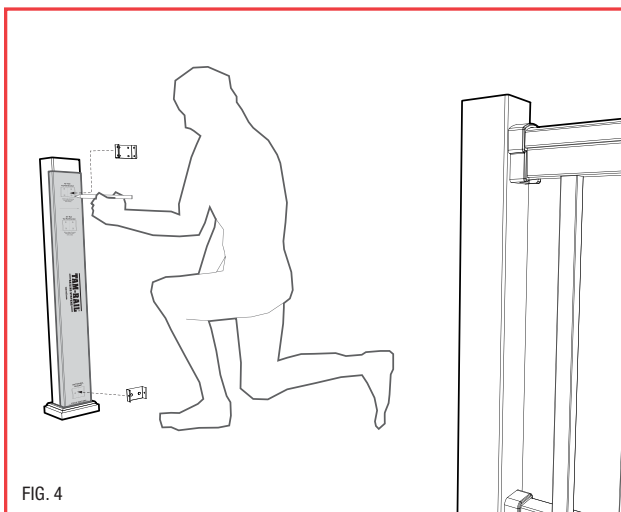

FIG. 4
6. Use the bracket placement template to position the top and bottom metal brackets (marked "T" and "B") and secure brackets in place using the six screws provided, affixing four on top and two on the bottom. (Fig. 4) Use the 2" screws for mounting to a wood post, or the 1" screws included in TAM-RAIL Post Mount kit when mounting to the TAM-RAIL Post Mount System.